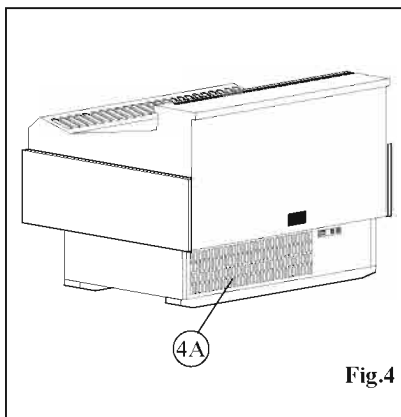

Fig.4
- the grates for the passage of the cooling air from the condenser are not blocked (Fig.4 - pos.4A);